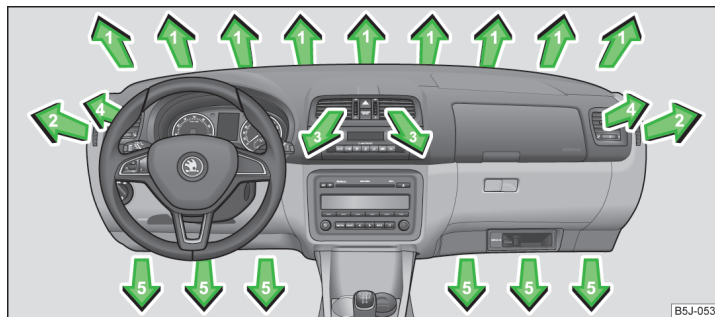

Fig. 99 Air outlet vents
The direction of airflow can be adjusted using the air outlet vents **3** and **4** » Fig. 99 and the outlets can also be opened and closed individually.
► Turn the vertical wheel (air vents 3) » Fig. 99 or the horizontal wheel (air outlet nozzles 4) to the  position.
► Turn the vertical wheel (air vents 3) » Fig. 99 or the horizontal wheel (air outlet nozzles 4) to the 0 position.
► In order to change the strength of the air flow, swivel the horizontal lamellas with the aid of the moveable adjuster » Fig. 99.
We recommend that you leave the air outlet vents **3** » Fig. 99 on page 90 in the open position in all operating modes.